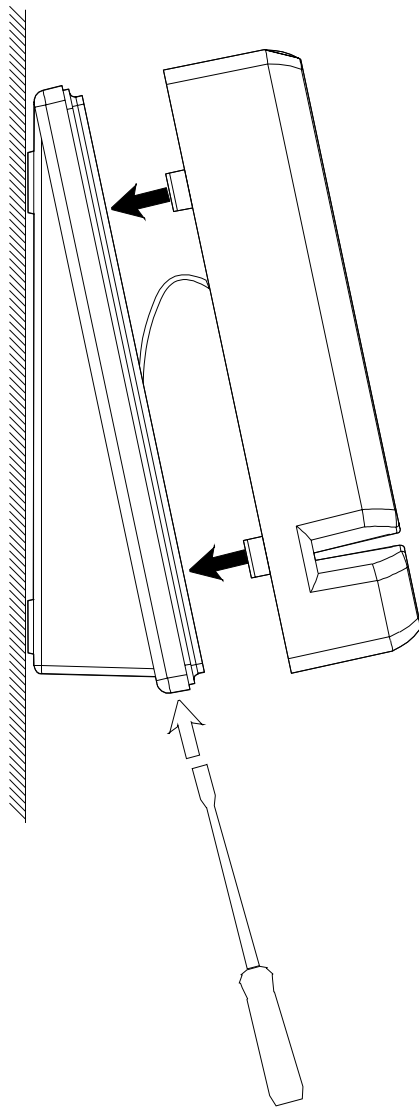

Figure 11. Closing the Terminal (Wall-Mounted Assembly)
2. Insert the upper shell as indicated in Figure 11.